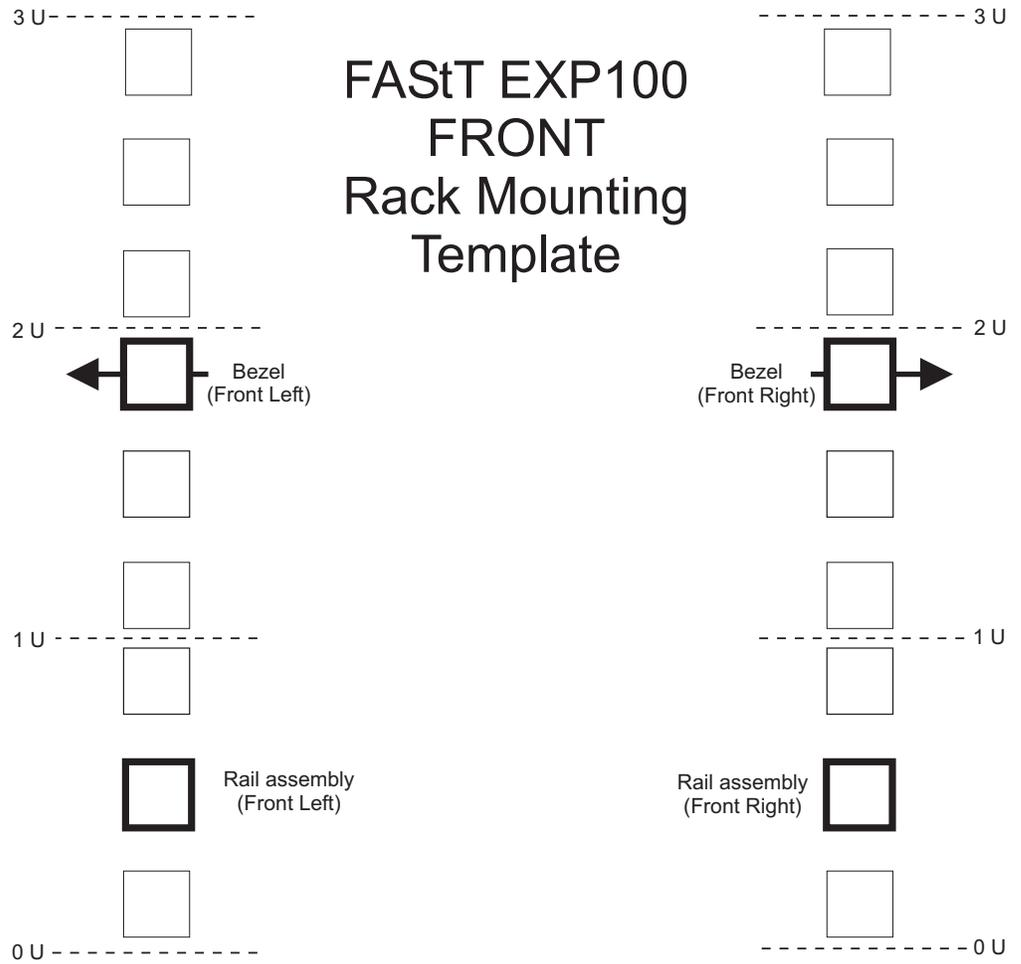
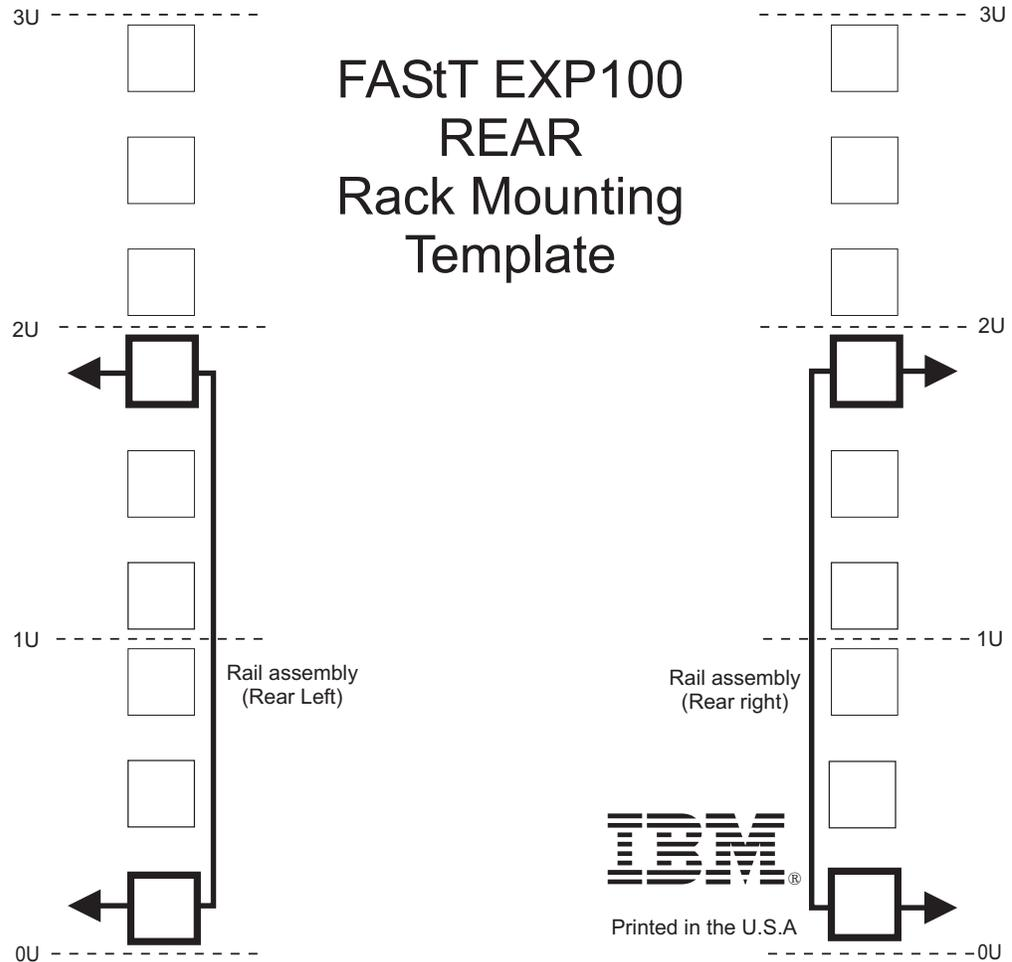

Figure 9. Front rack mounting template
Figure 10. Rear rack mounting template
Use the following templates (Figure 9 on page 33 and Figure 10 on page 34) to identify the proper locations for inserting M6 screws when mounting the support rails and FAStT EXP100 to a rack. The locations for the M6 screws are highlighted in the templates.
Attention: Use the rack mounting template provided in Figure 9 on page 33 and Figure 10 on page 34 to locate the proper rack mounting holes for installing the support rails into the rack.
6. Hold the front of the rail against the inside of the right rack-mounting flange and loosely tighten the lower M6 screw (**4**). See Figure 9 on page 33 for the location for this screw.
8. From the rear of the rack, thread and tighten two M6 screws (**1**) (see Figure 10 on page 34 for the location for these screws). From the front of the rack, finish tightening the front M6 screw (**4**).